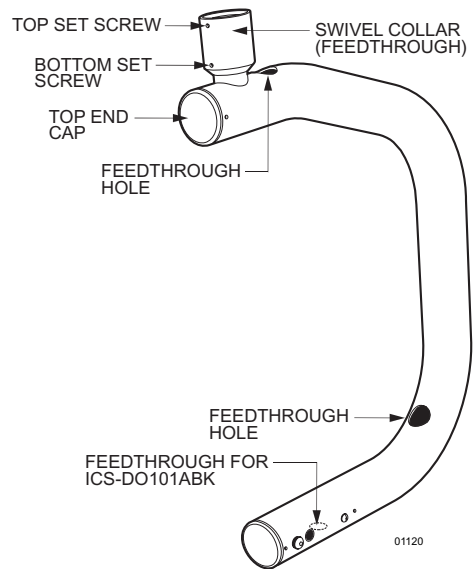

Figure 1. MR5000L Mount Arm
The MR5000L monitor mount is capable of providing a concealed wire installation. To conceal cables, pull cables through the feedthrough holes of the mount arm. Refer to Figure 1 for feedthrough hole locations. To feed cables through the top of the swivel collar, temporarily remove the top end cap from the mount arm (if installed) to assist in directing cables.
NOTE: The bottom set screw on the swivel collar is for positioning the mount arm. Refer to Figure 1. Finish the installation before adjusting the position of the system.
- Tighten the top set screw on the swivel collar (refer to Figure 1) to secure the mount to the NPT pipe.
2. Pull power wires through the ICS-DO101ABK feedthrough (refer to Figure 1) located at the bottom of the mount arm. Remove the .50-inch plug if it is installed.